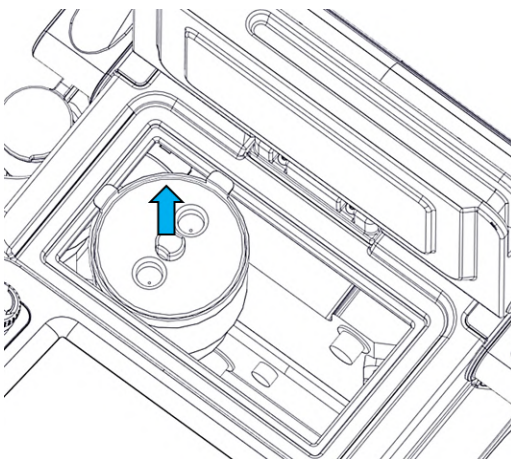

FIGURE 10-3
3. Remove the debris cage in the waste water tank (**Fig. 10-3**), empty and wash if necessary.